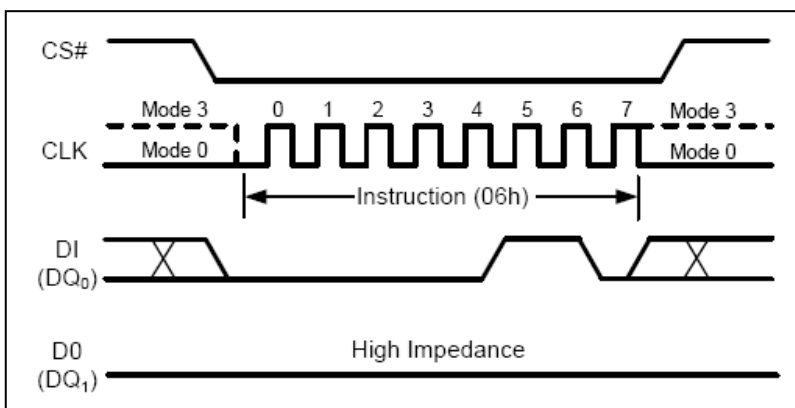

Figure 5 Write enable instruction
Instructions vary in length from a single byte to several bytes and may be followed by address bytes, data bytes, dummy bytes (don't care), and in some cases, a combination. Instructions are completed with the rising edge of edge CS#. Clock relative timing diagrams for each instruction are included in Figure 5 through Figure 27. All read instructions can be completed after any clocked bit. However, all instructions that Write, Program or Erase must complete on a byte boundary (CS# driven high after a full 8-bits have been clocked) otherwise the instruction will be ignored. This feature further protects the device from inadvertent writes. Additionally, while the memory is being programmed or erased, or when the Status Register is being written, all instructions except for Read Status Register will be ignored until the program or erase cycle has completed.
The Write Enable (WREN) instruction (Figure 5) sets the Write Enable Latch (WEL) bit in the Status Register to a 1. The WEL bit must be set prior to every Page Program, Sector Erase, Block Erase, Chip Erase, Write Status Register instruction. The Write Enable (WREN) instruction is entered by driving CS# low, shifting the instruction code “06h” into the Data Input (DI) pin on the rising edge of CLK, and then driving CS# high.